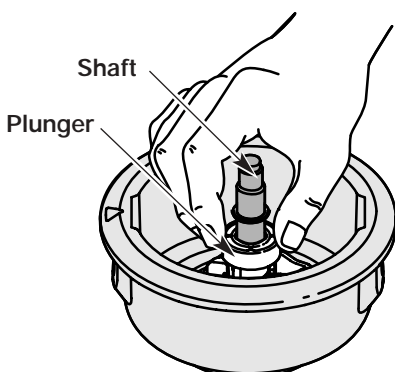

Fig. 56
5. Clean the shaft and the inner surface of the outer spool. To clean the shaft underneath the plunger, press down on the plunger (Fig. 56). Remove any dirt or debris from the shaft.